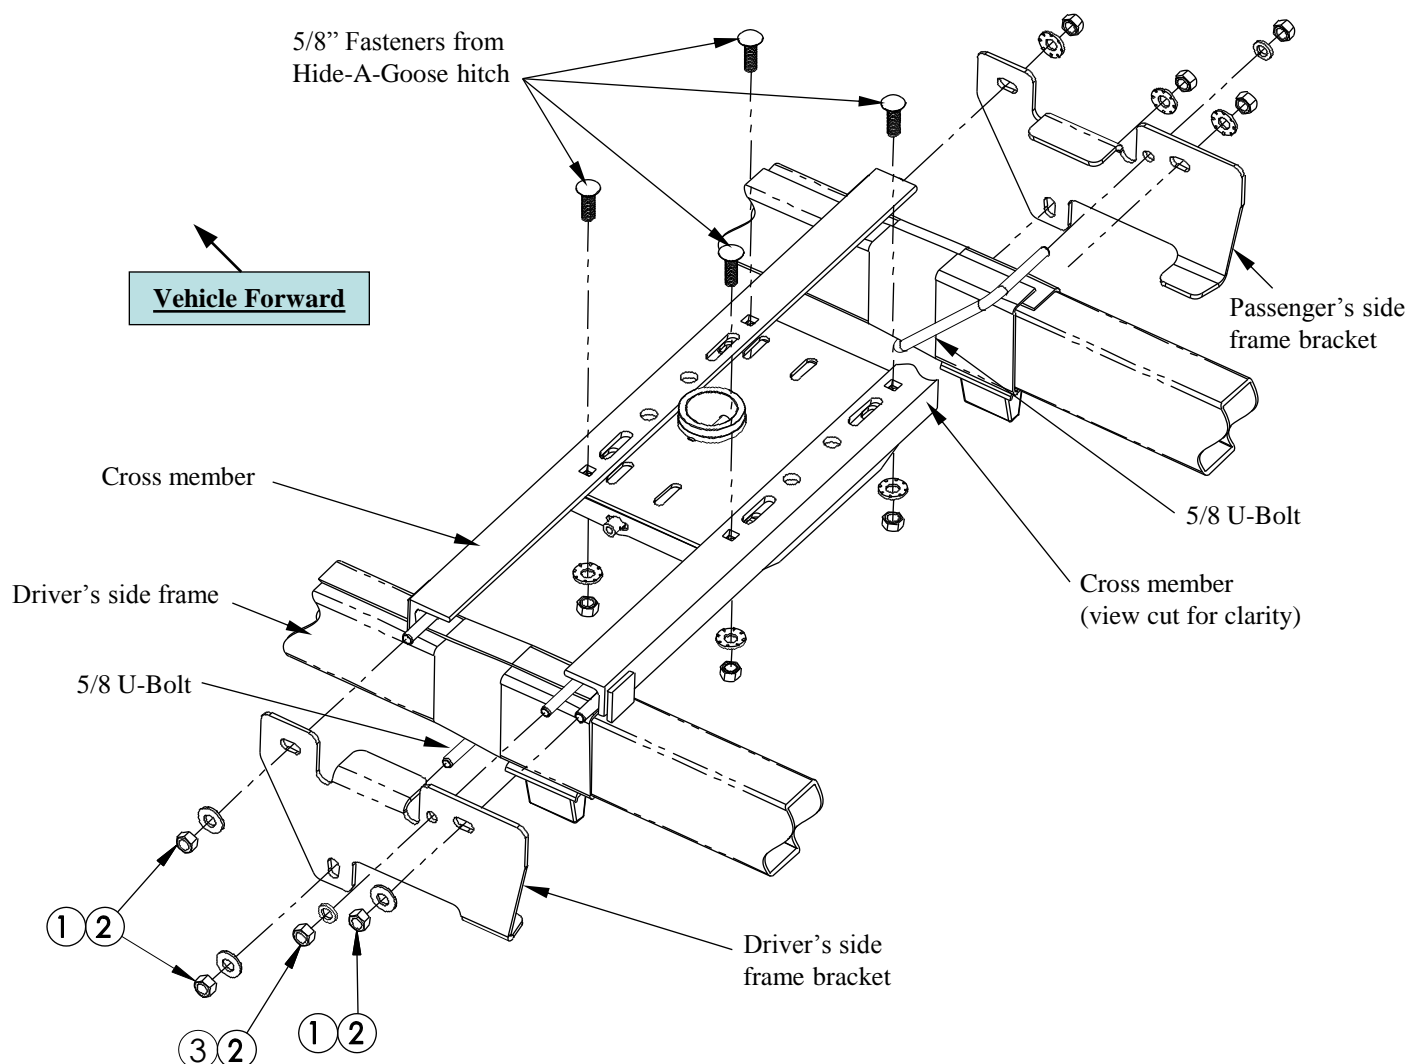

Figure 1
3. Place 5/8" GR8 carriage bolts from the Hide-A-Goose fastener kit into the square holes on the cross members from the top pointing towards the ground. See Figure 1.